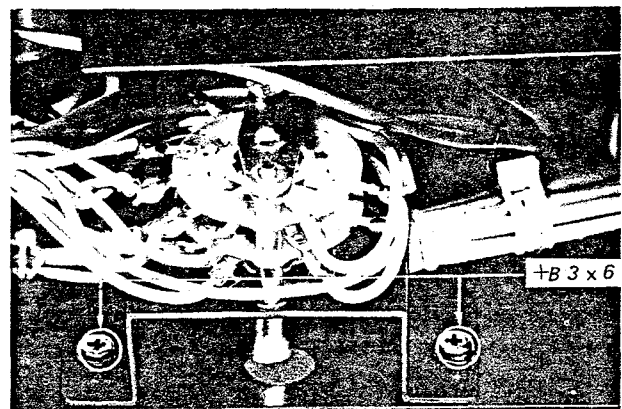

Fig. 2-5 Channel Selector switch removal
1. Remove the two screws (+B 3 X 6) securing the switch mounting bracket to the bottom plate as shown in Fig. 2-5.